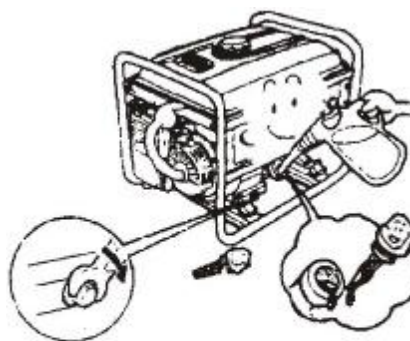

Fig. 38
7.2.3 Put the drain plug back(Figure 38)